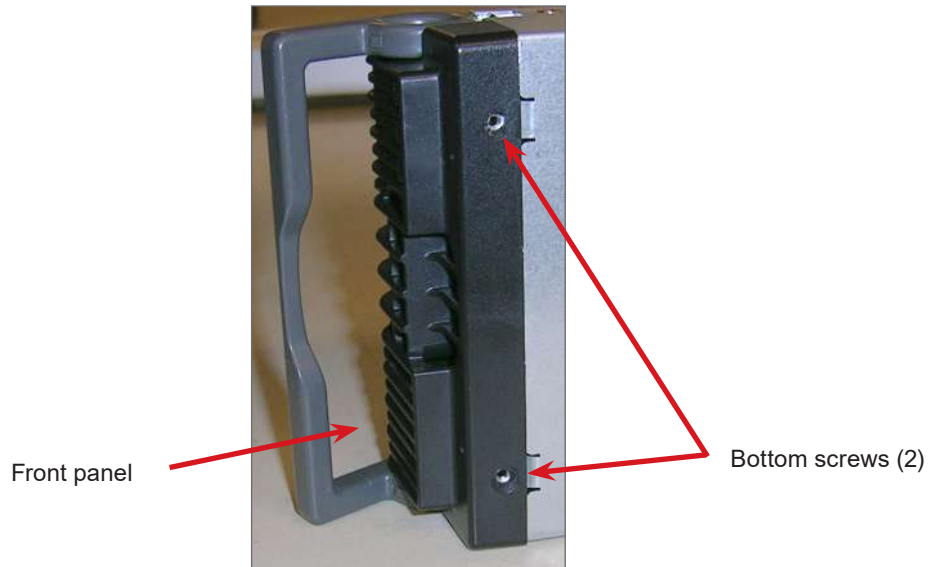

Figure 16 — Rectifier Bottom View
2. Remove the two bottom screws that secure the front panel to the module chassis (Figure 16).
10. Secure the front cover by hand tightening the bottom screws, see Figure 16.